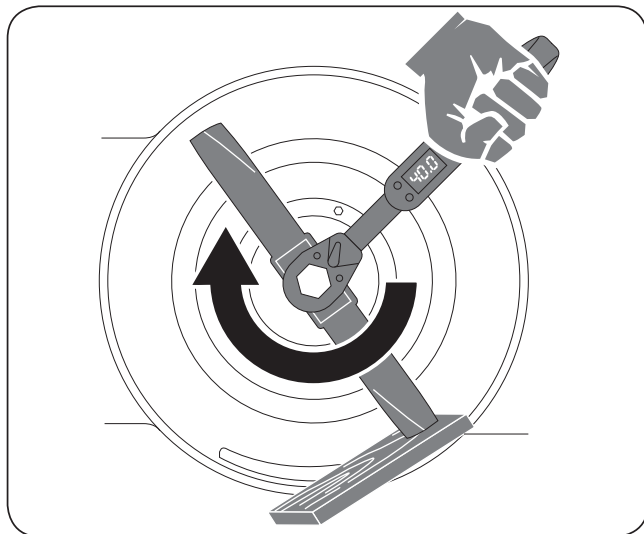

Figure 16
4. Install the new blade. Use a block of wood between the blade and lawn mower housing and tighten the blade bolt, turning clockwise. The recommended tightening torque is 25.8-29.5 ft.-lb. (35-40 Nm). (See Figure 16)